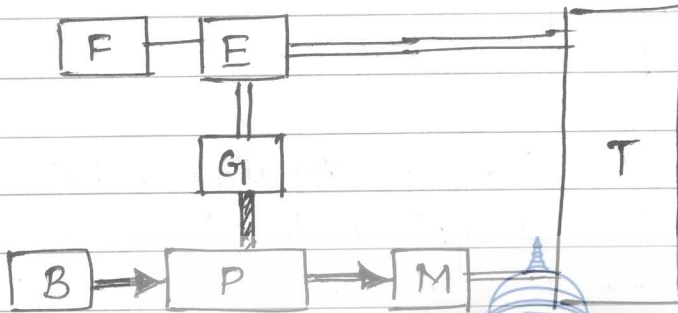

fig 4a Mode 1
- Mode 1 : During startup (fig 4a) , the EM provides the traction power and the ICE remains in the off state.